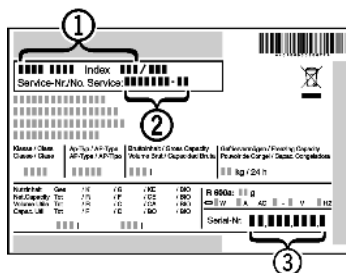

Fig. 36
- ▶ Read the appliance designation *Fig. 36 (1)*, service no. *Fig. 36 (2)* and serial no. *Fig. 36 (3)* from the rating plate. The rating plate is located inside the appliance on the left-hand side.
- ▶ Notify a qualified service provider, specifying the fault, appliance designation *Fig. 36 (1)*, service no. *Fig. 36 (2)* and serial *Fig. 36 (3)* no.